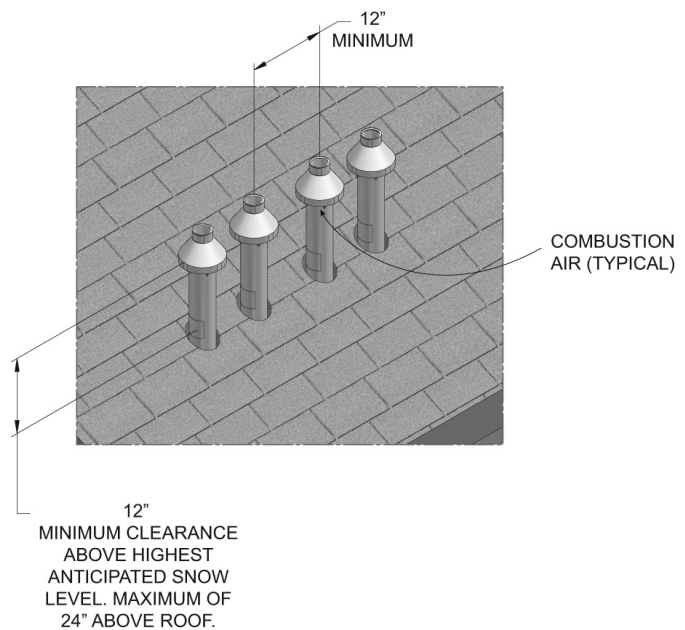

Figure 50. Concentric Vent and Combustion Air Vertical Termination
When two (2) or more direct vent appliances are vented near each other, each appliance must be individually vented (see Figure 50). NEVER common vent or breach vent this appliance. When two (2) or more direct vent appliances are vented near each other, two (2) vent terminations may be installed as shown in Figure 50. It is important that vent terminations be made as shown to avoid recirculation of flue gases.